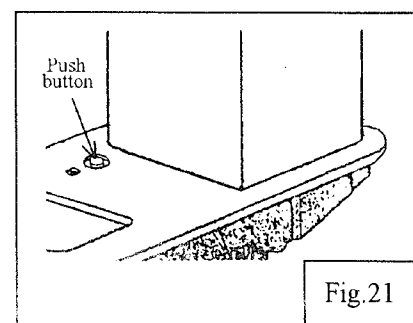
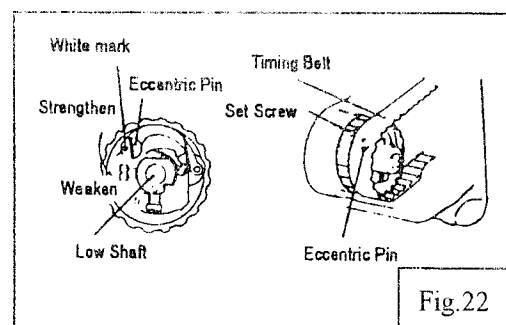

Fig. 21
Fig. 22
17. Safety clutch device (Fig.21, Fig.22)
2) How to set the safety clutch (Fig.22)
3) Force applied to the safety clutch (Fig.22)